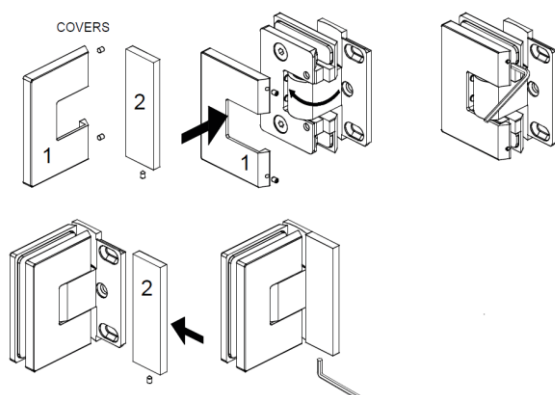
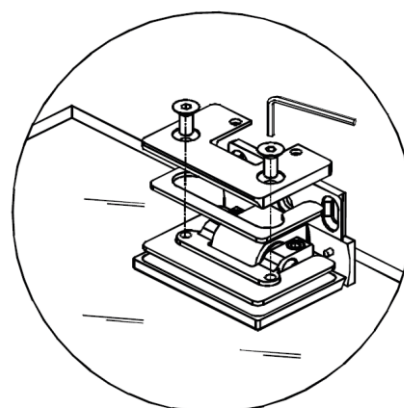

Figure 6 - Cover removal
Figure 5 - Adjusting the screws
Firstly, remove the covers (1) (Figure 6) and then loosen up the screws (Figure 5) but do not take them out. Make necessary adjustments and tighten the screws. Only tighten by hand and do not overturn the screwheads!